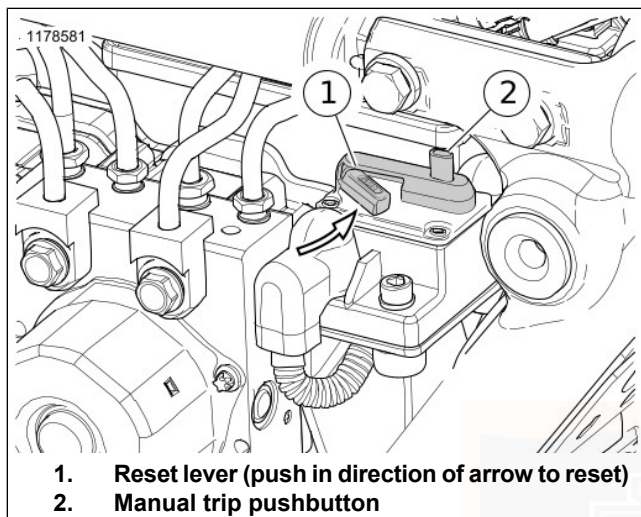

Figure 88. Reverse Motor Circuit Breaker
See Figure 88. The circuit breaker is located in the electrical caddy behind the right side cover. This manually resettable circuit breaker has a red trip pushbutton (2) and a reset lever (1). To manually trip the circuit breaker, push down on the trip push button (which causes the reset lever to extend out).